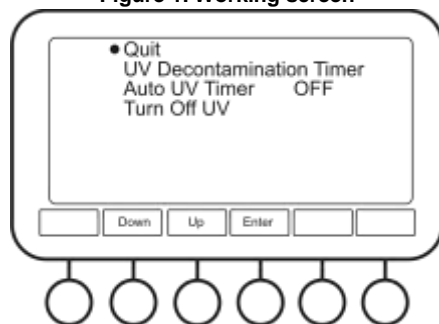

Figure 3. Timer menu
- 5.9.1 **Timer** (fig. 3). In this submenu user can set UV decontamination timer and Auto UV timer.